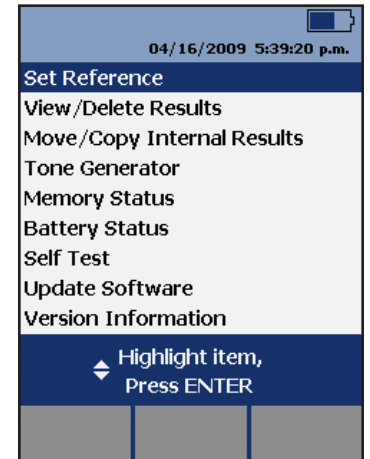

Figure 4
- Turn the rotary switch to “Special Functions” and choose “Set Reference” (**Figure 4**).